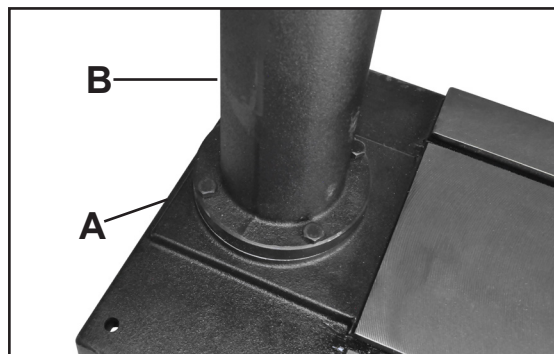

Figure 1
1. Place the base (A-Fig. 1) on a level floor where the machine will be used.
2. Attach the column (B-Fig.1) to the base (A-Fig. 1) using four M12x40 hex bolts. Tighten all four bolts with a 18mm, 11/16" or adjustable wrench.